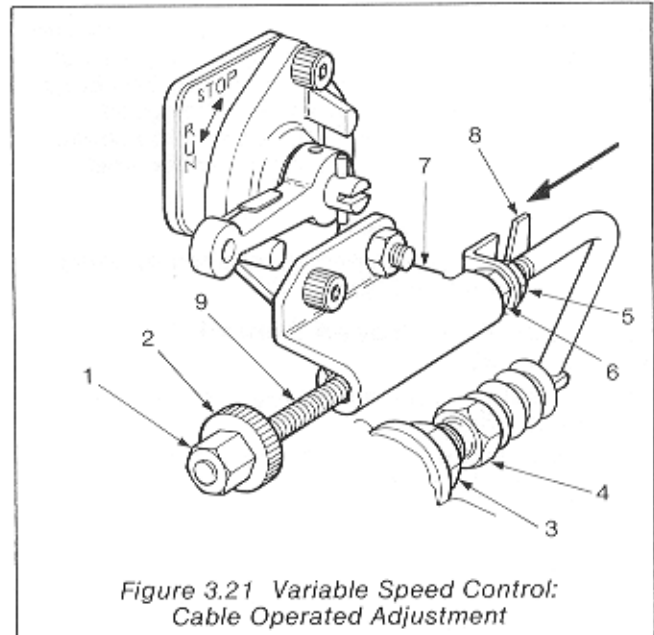

Figure 3.21 Variable Speed Control: Cable Operated Adjustment
**Cable Operated (Figure 3.21)**